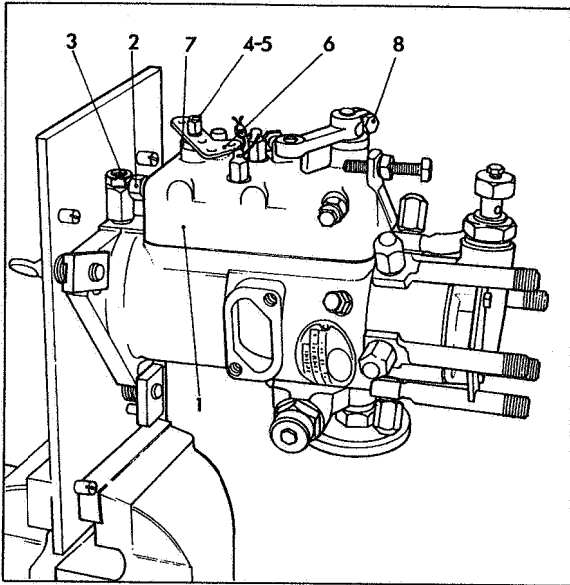

Fig 34 Pump & mounting fixture
Secure Fixture Part No 7044-888F in vice. Secure the pump to the fixture with governor control cover (1) uppermost as shown in Fig 34.